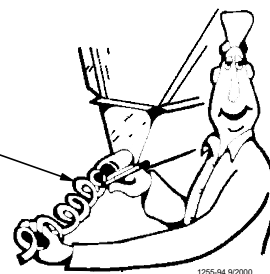

Figure 33. Marking the Relaxed Auger
7. Pull the auger at the boot end until it begins stretching then let it relax. In the relaxed position, mark the auger at the end of the boot. See Figure 33.